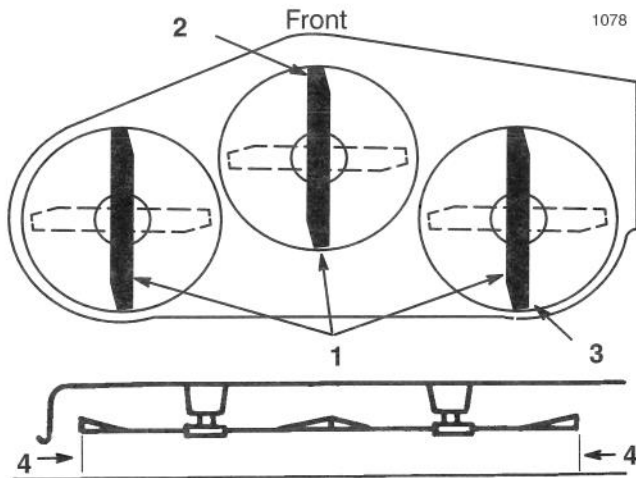

Figure 10
4. Carefully rotate blades so they are facing front and rear (Fig. 10).
5. Measure between the tip of the front blade (Fig. 10) and the tip of the rear blade to the flat surface. If the front blade tip is not 0–3/8" (0–9.5 mm) lower than the rear blade tip adjust front adjustment link(s).